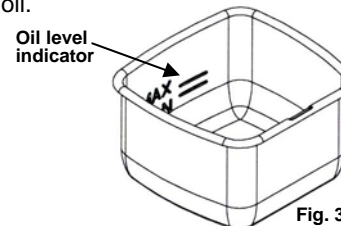

Fig. 3
- The oil level must **always** be maintained between the minimum and the maximum levels marked inside the oil reservoir. Check the oil level before each use. For best results, keep the oil close to the maximum level (16 cups/4 liters). (Fig. 3)